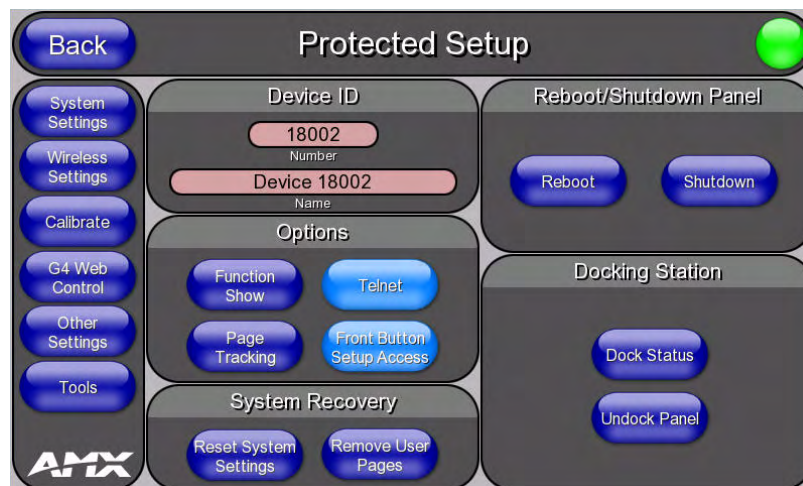

FIG. 18 Protected Setup page
2. Press the **Protected Setup** button. This opens a keypad for entry of the password to allow access to the *Protected Setup* page (FIG. 18). Enter the device's password and press **Done** to proceed.